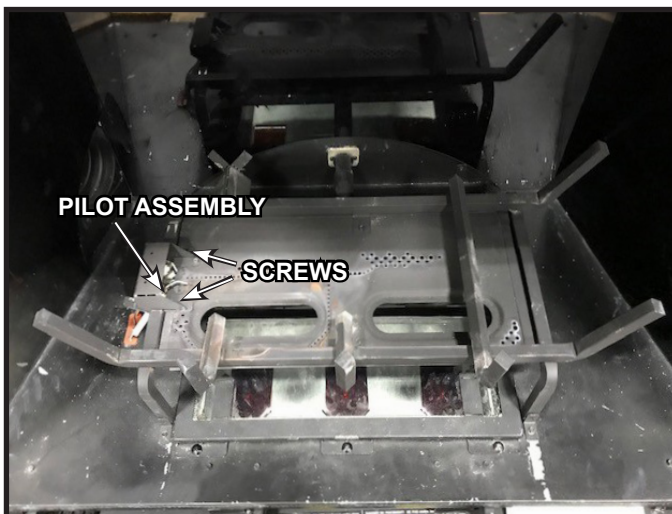

Figure 21 Reattach Pilot Assembly and Pilot Hood
21. Reattach the Pilot Assembly and Pilot Hood to the Burner with the screws that were removed in step 8. See Figure 21.